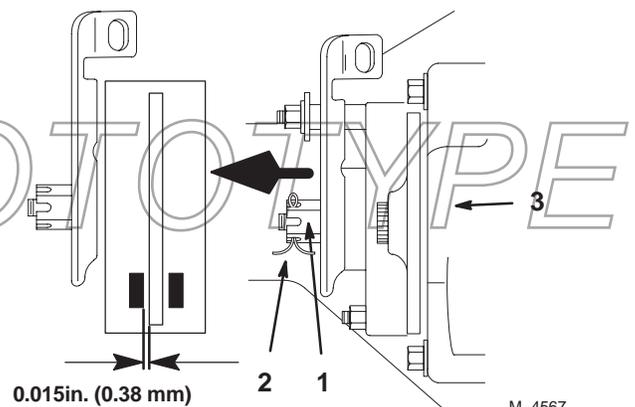

Figure 25
3. To adjust the brake remove the cotter pin and loosen the brake adjusting nut slightly (Fig. 25).
4. Carefully insert a 0.015 inch (0.38 mm) feeler gauge between the outer brake pad and rotor disk (Fig. 25).